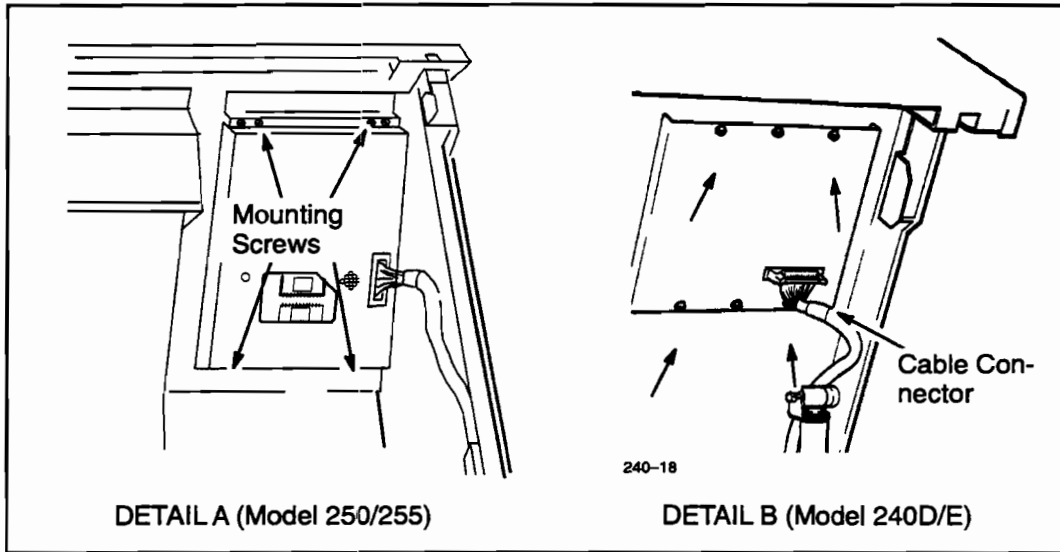

Figure 6-11. Front Panel Removal
3. Unplug the front-panel cable. See Figure 6-11.